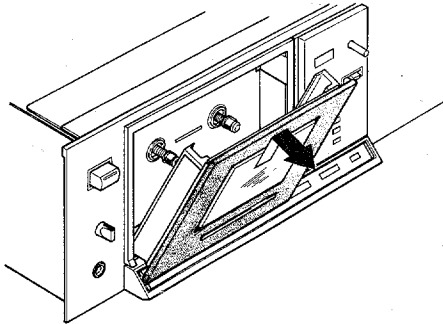

Fig. 1
- 1) Remove the cassette lid in the direction shown by the arrow (See Figure 1.)